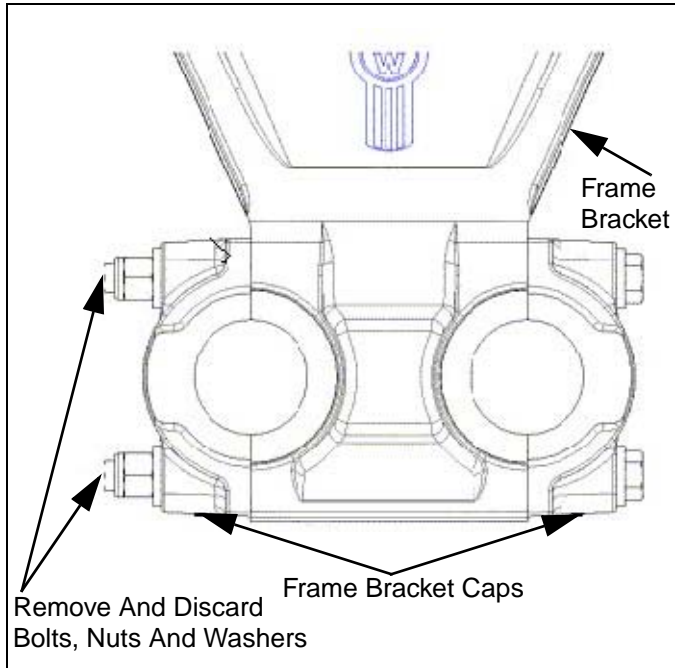

Figure 17-19
1. Remove and discard the fasteners from the frame bracket and cap joint. See Figure 17-19.